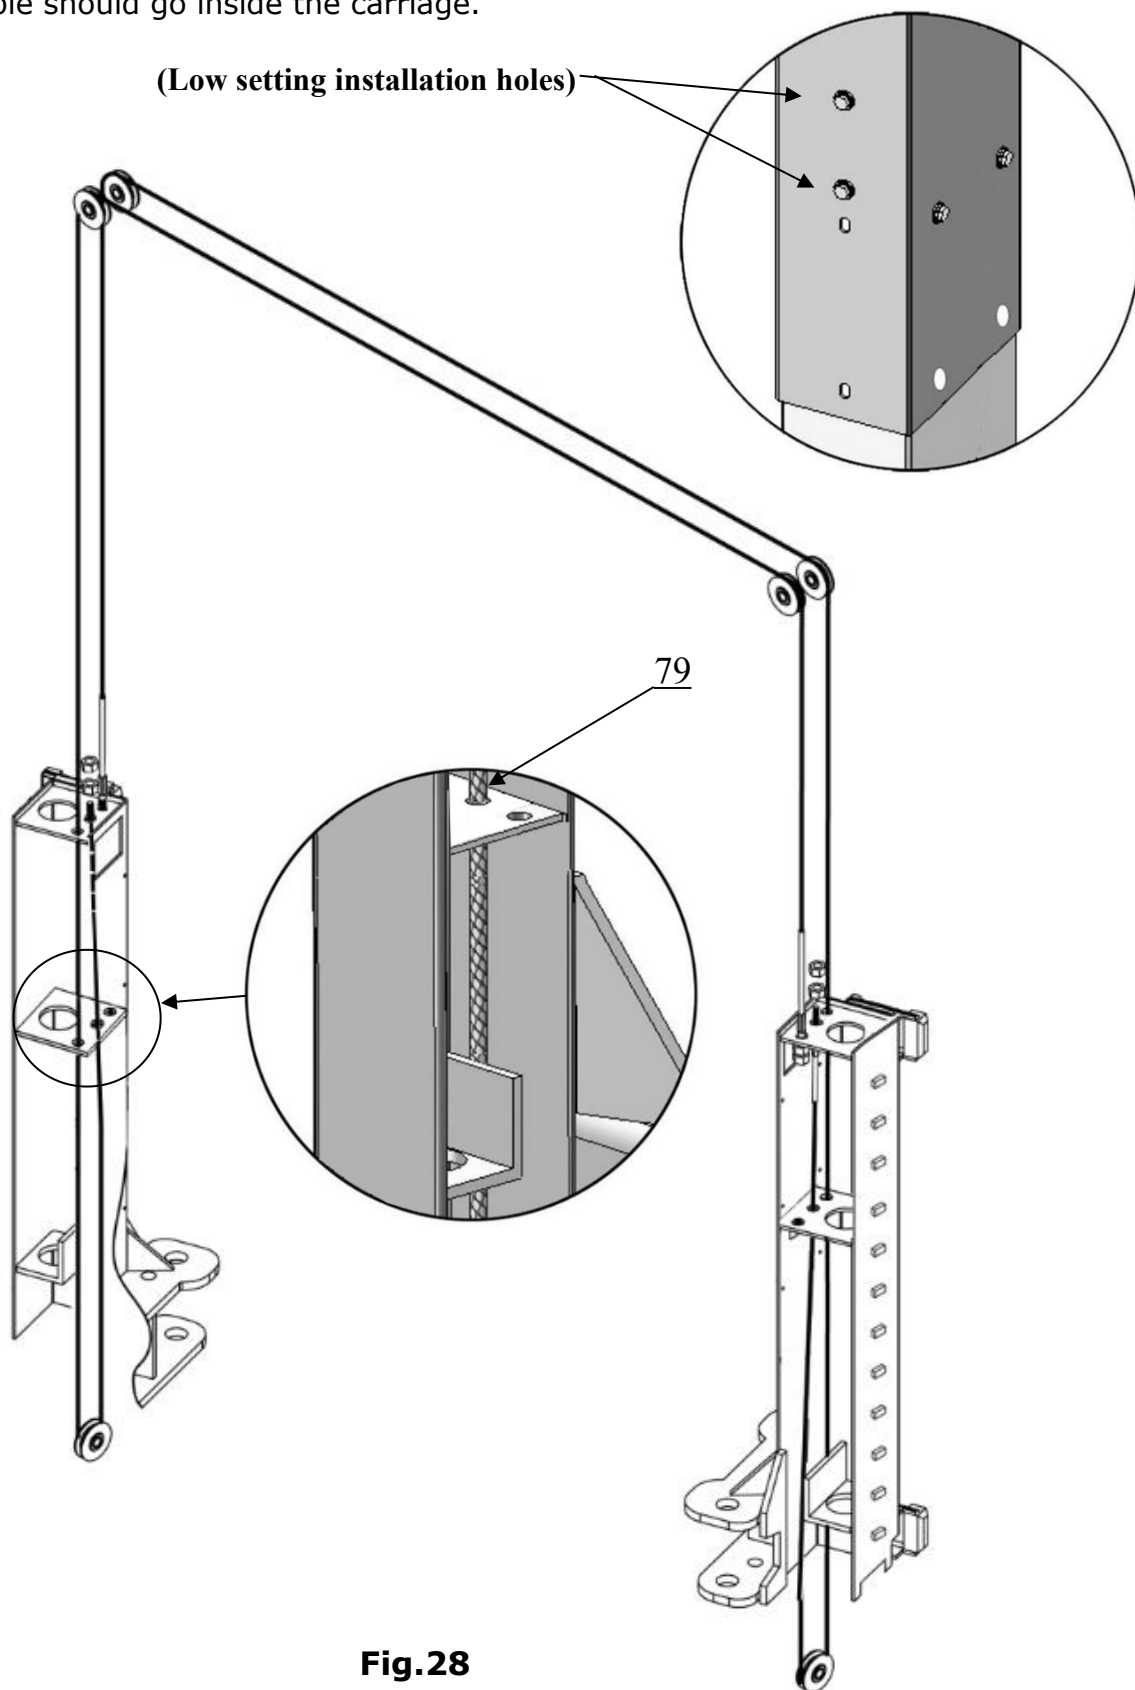

Fig.28
2. OHX-10H Low setting cable connection (See Fig. 28)